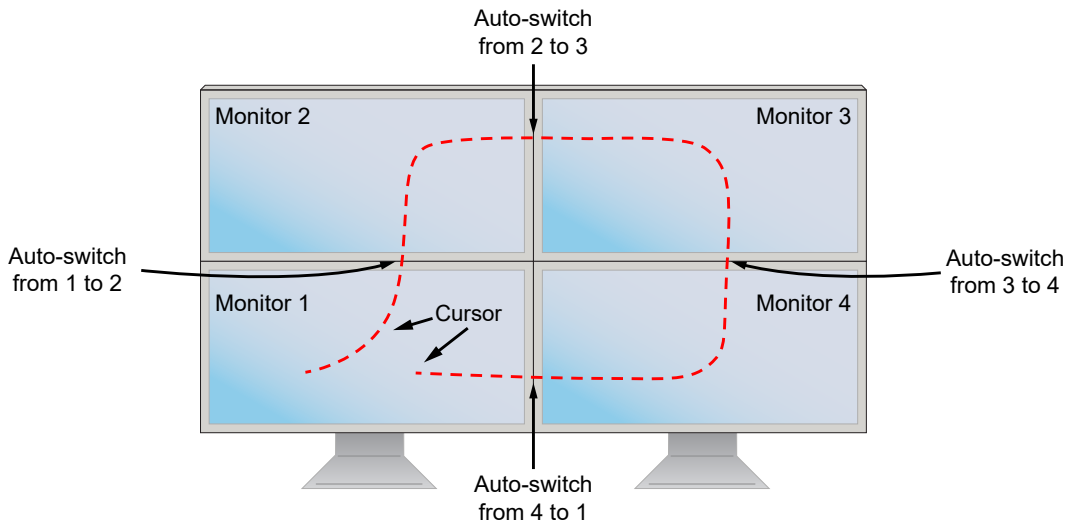

Figure 10-1
4. Figure 10-1 below shows how this functionality works.